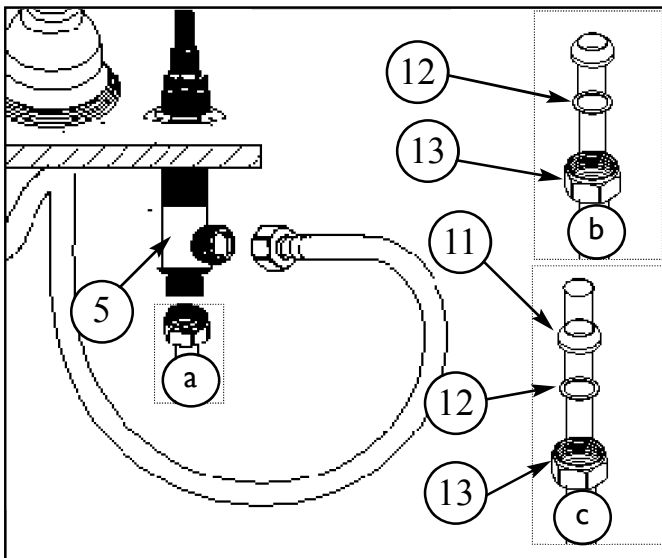
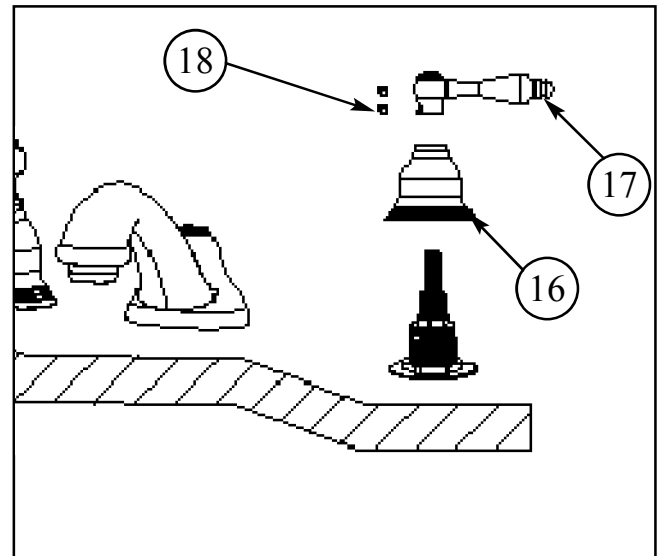

Figure 3
Figure 4
4. Connect hot/cold water supply to appropriate 1/2" NPSM valve BODY (5), utilizing one of the three following types of risers. Supply risers not included. See Figure 3.
- a. 1/2" IPS flexible riser: discard rubber nosecone WASHER (11), friction WASHER (12) and coupling NUT (13).
- b. 3/8" or 1/2" OD bullnose riser: utilize friction WASHER (12) and coupling NUT (13).
- c. 1/2" copper riser: utilize rubber nosecone WASHER (11), friction WASHER (12) and coupling NUT (13).
5. Attach ESCUTCHEON (14) and HANDLE (15). Secure handles into place with SETSCREW (16). Any adjustments for rotational alignment must be made to the valve BODY (7) - not to the cartridge. (Note: Allow minimum spacing between HANDLE (15) and ESCUTCHEON (14) to prevent damage to the surface finish.) For cross handle style, rotate handle to off position press BUTTON (15a) onto cross handle. See Figure 4.